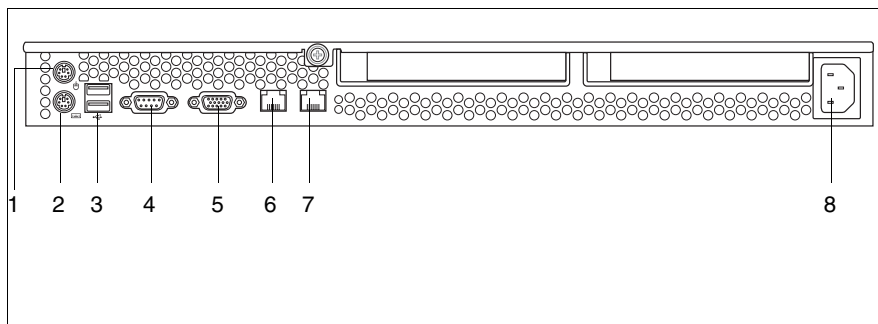

Figure 8: Connections
The standard ports (figure 8) are marked with symbols, and some are color-coded:
- ▶ Connect the insulated connector of the power cable to the power supply unit of the server (see figure 8 on page 39, connection 8).